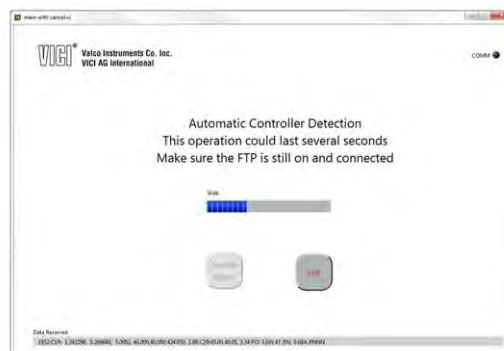

Figure 6: A new search routine is initiated if communication is interrupted
5. If communication is lost between the PC and the FTP, a new search routine will be automatically initiated. (**Figure 6**) If the controller is still powered on, this method should restore communication. If it does not, contact the factory.